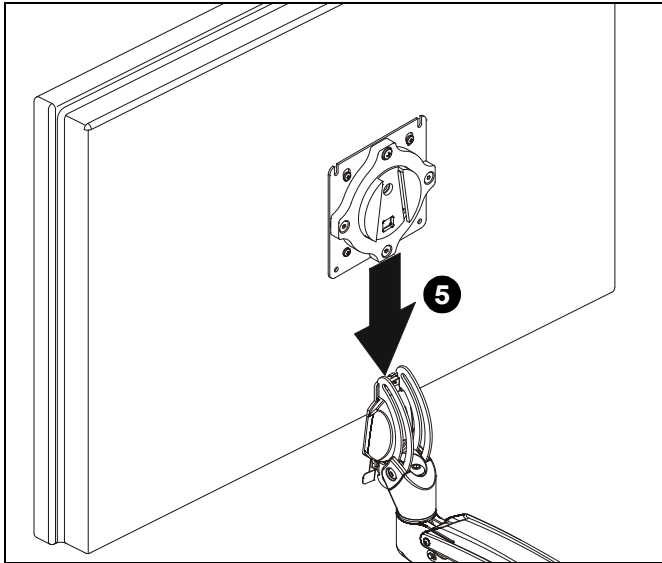

Figure 13
4. Position display with faceplate attached above mount. (See Figure 13)
5. Slide faceplate onto mounting head until quick release tab clicks into place. (See Figure 13)